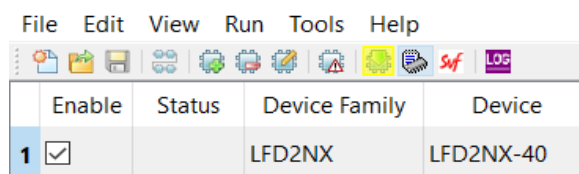

Figure 4.3. Programming Button
7. Click the **Programming** button highlighted in Figure 4.3 to start programming.